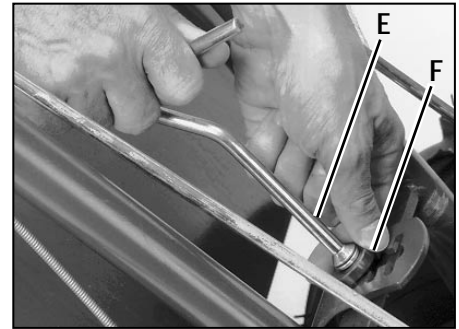

Figure 3-3: Height Adjusting Handle (E).
3. Loosen the height adjustment handle (E, Figure 3-3) and pull the keyed washer (F) free of the slots in the curved height adjustment bracket.